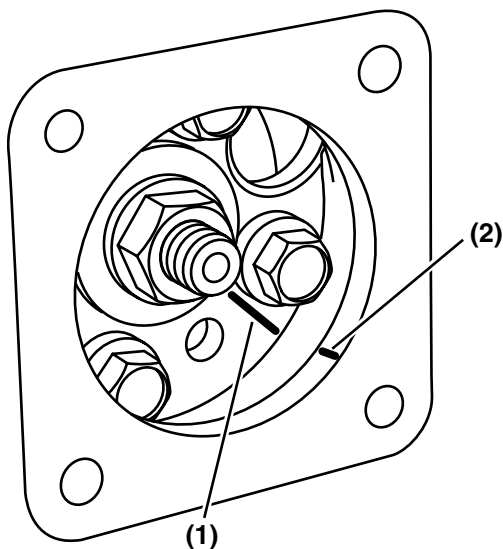

Figure 7-10
- On TNV82-88 model engines, the idler gear is not visible. Make a reference mark on the fuel injection pump drive gear (**Figure 7-10, (1)**) and a matching mark on the bore of the gear case opening (**Figure 7-10, (2)**).